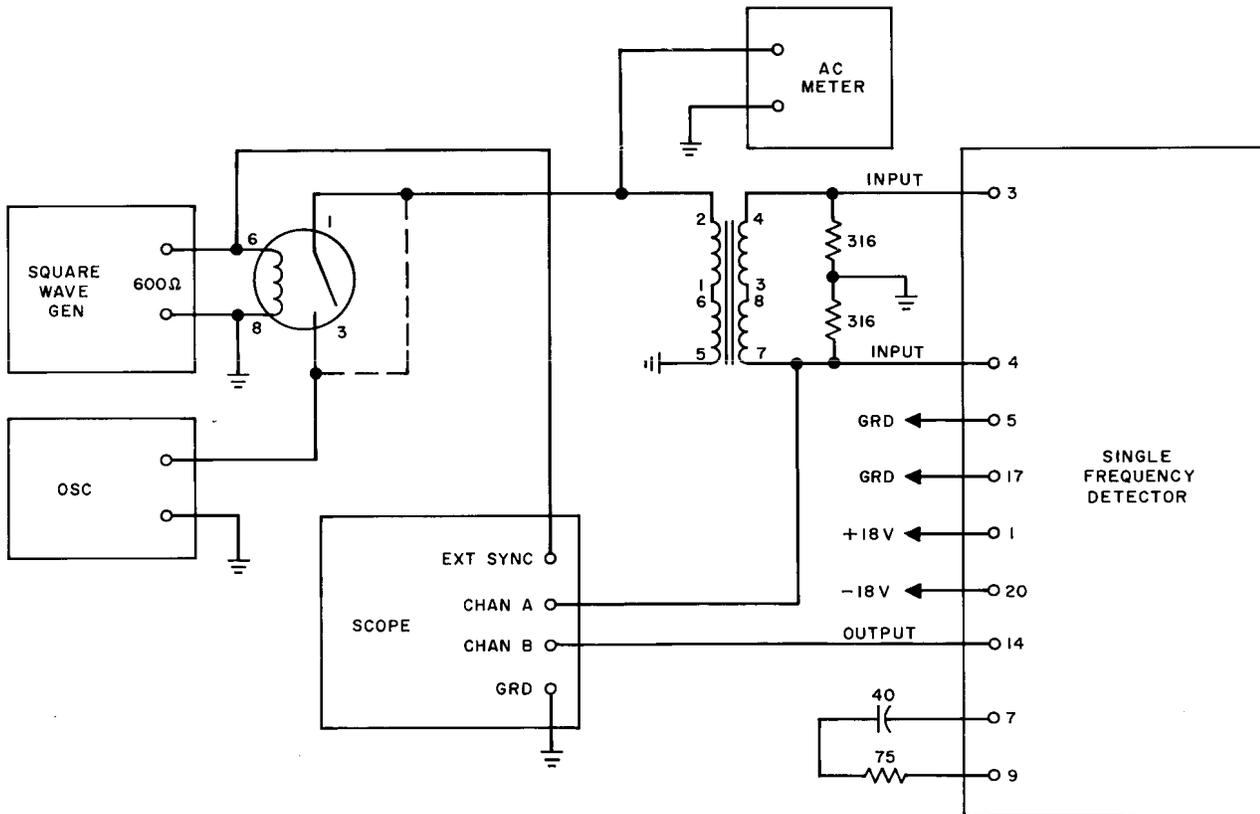
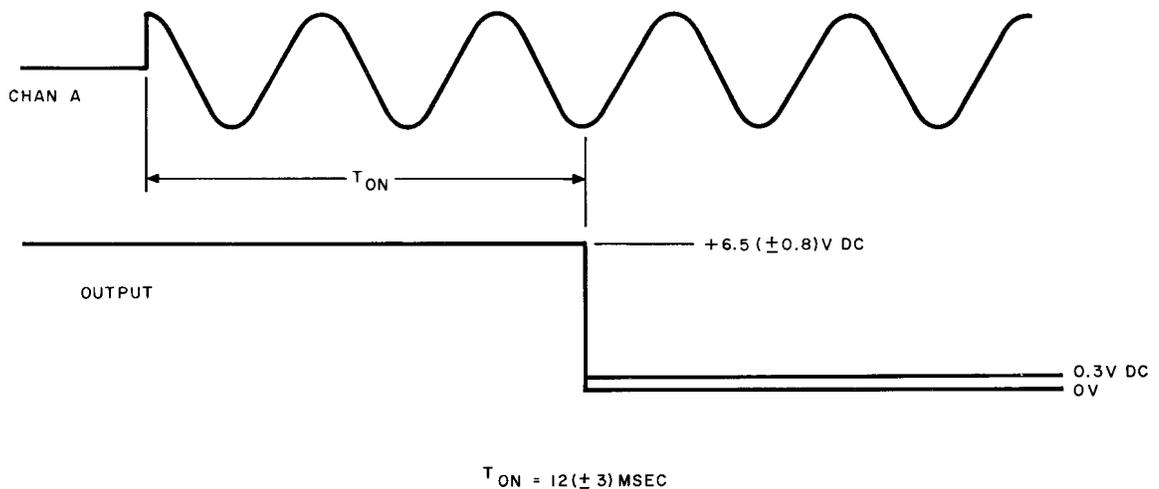

Fig. 14A — Single-Frequency Detector Test Circuit
Fig. 15A — Single-Frequency Detector Test
4.01A Circuit Description: The AR87 circuit pack contains (1) a peak-to-peak amplifier and an emitter-follower; (2) a voltage-doubling rectifier circuit and amplifier; and (3) a fast-operate slow-release circuit and slicer. The following description is illustrated by a circuit sketch that follows the test procedures. Required external connections are illustrated in Fig. 14A and 17A.
- (1) Connect the circuit pack to the suggested test circuit shown in Fig. 14A. Connect +18.0 (± 0.5) Vdc to terminal 1, -18.0 (± 0.5) Vdc to terminal 20, and ground to terminals 5 and 17. For this section of the test, place a short between pins 1 and 3 of the mercury relay.
- (2) Set the frequency of the sine-wave generator to 600 Hz (± 5 percent).
- (3) Set the amplitude of the input sine wave at the primary of the transformer to 1.2 (± 0.1) volts rms.
- (4) The voltage between terminal 14 and ground shall be +6.5 (± 0.8) Vdc.
- (5) Increase the amplitude of the input sine wave to 2.0 (± 0.1) volts rms.
- (6) The voltage between terminal 14 and ground shall be less than or equal to +0.3 Vdc.
- (7) Reduce the amplitude of the input sine wave until the output on terminal 14 switches to +6.5 (± 0.8) Vdc. The amplitude of the input sine wave at the point of switching shall be 1.6 (± 0.2) volts rms.
- (1) Connect the circuit pack to the suggested test circuit shown in Fig. 14A.
- (3) Temporarily short pin 1 to pin 3 of the mercury relay. Set the amplitude of the input sine wave at the primary of the transformer to 3.5 (± 0.05) volts rms. Remove the short between pins 1 and 3 of the relay.
- (4) Set the frequency of the square-wave generator to 2.0 Hz. Set the amplitude of the square-wave generator high enough to operate the mercury relay.
- (5) Set the scope EXT SYNC TRIGGER to the (-) negative position. The output waveform at terminal 14 shall be as specified in Fig. 15A.